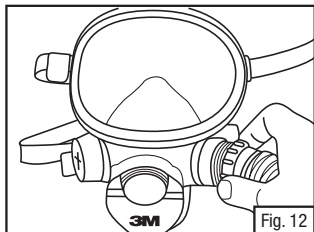

Fig. 12
3. Thread 40mm Breathing Tube connection thread into 40 mm DIN port on facepiece. (Fig. 12 and 13).